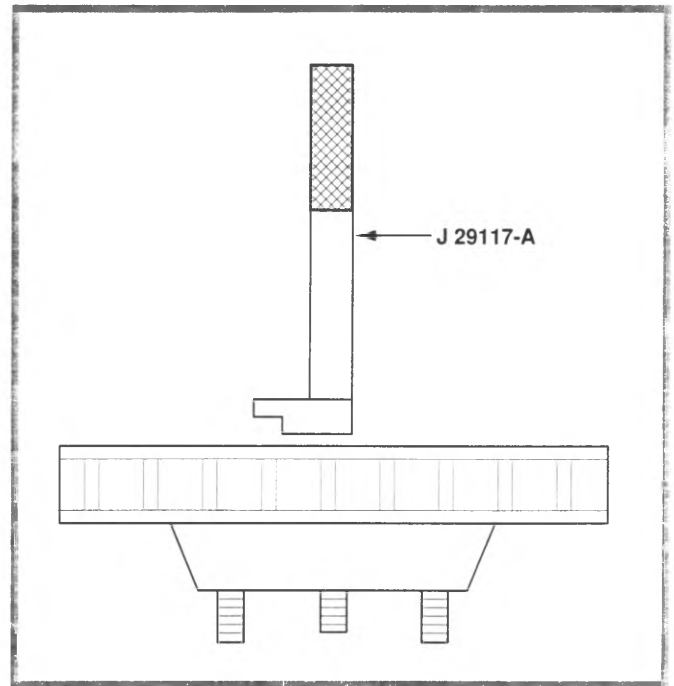

Figure 6-22, Removing Front Wheel Bearing Race
6. Drive out old races from hub with a drift or J 29117-A inserted behind races (figure 6-22).